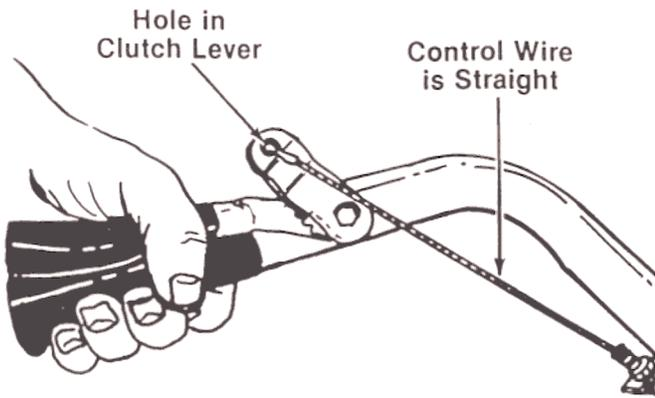

FIGURE 10.
3. With the clutch lever released (in the "up" position), adjust the bottom nut at the cable bracket so there is only a slight amount of slack in the control wire. Tighten the upper nut against the bracket. Squeeze the clutch lever against the handle. The control wire —should now be straight. See figure 10.